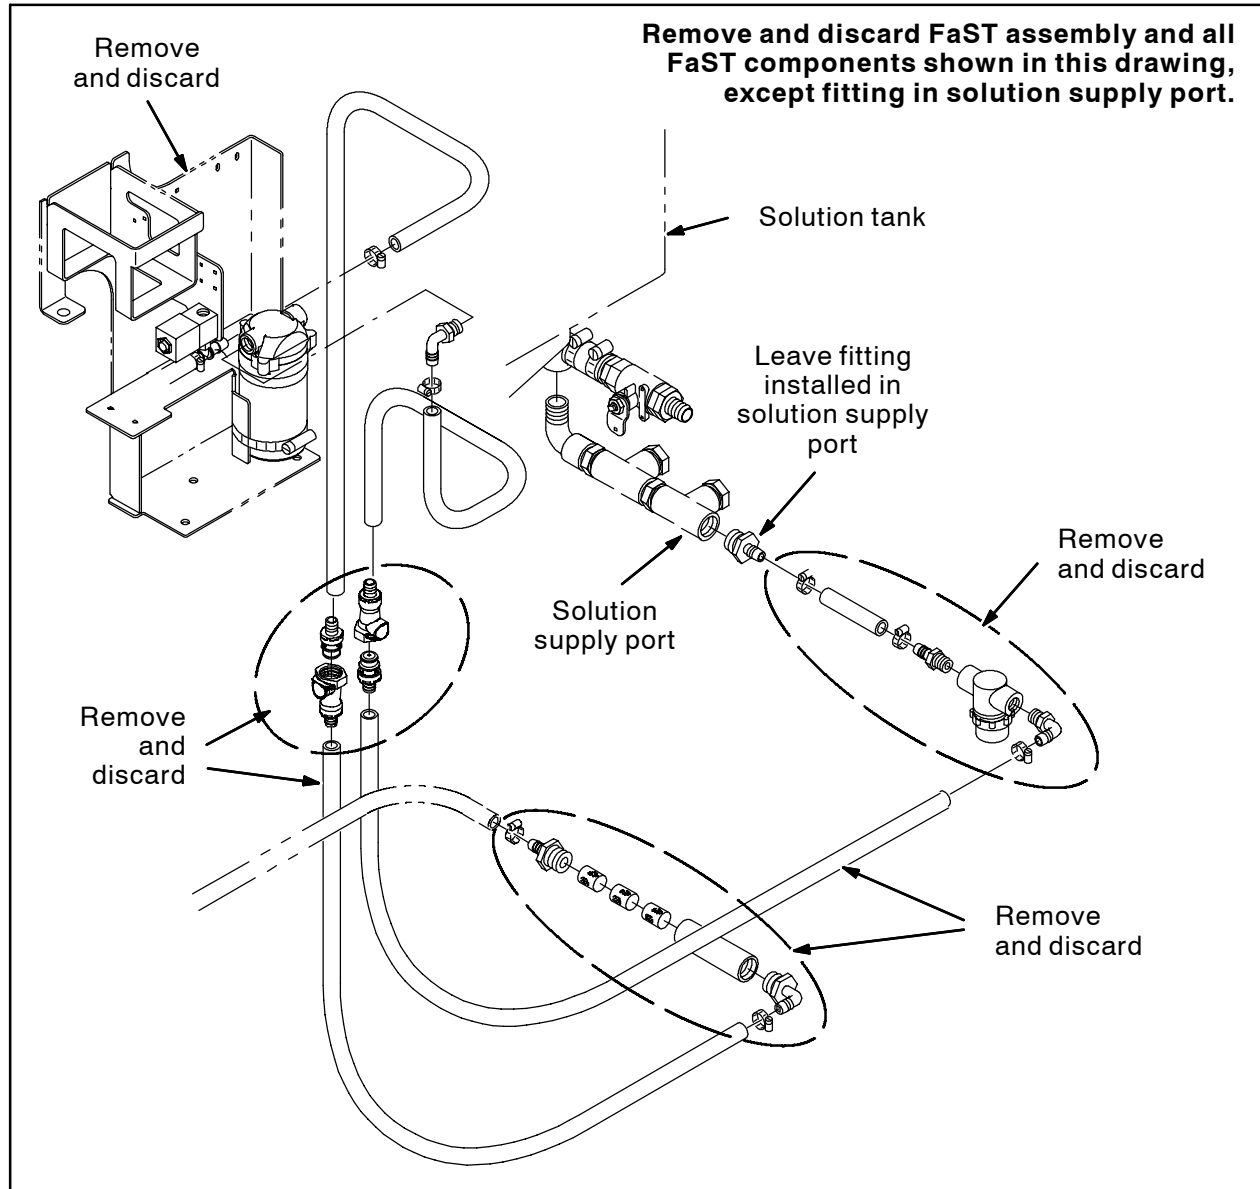

FIG. 1
2. Remove the FaST components and hardware from the machine. Discard all removed parts. Refer to Fig. 1.